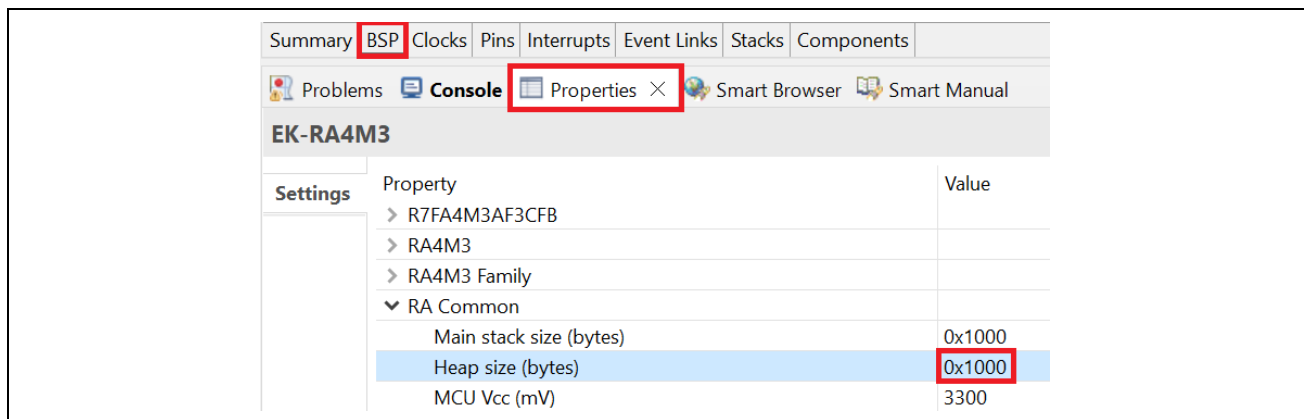

Figure 26. Update the Heap size to 0x1000
3. Navigate to the BSP tab in `ra_mcuboot_ra4m3_swap_enc_qspi\configuration.xml` and update the BSP heap size from 0x600 to 0x1000 as illustrated in Figure 26 . When encryption is used, a minimum of 0x200 heap needs to be added. This increased heap usage came from the added AES algorithm usage.